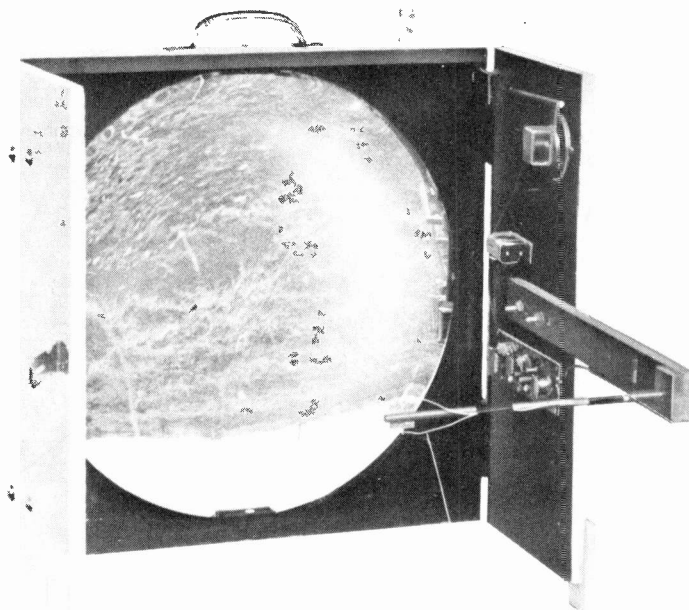

Fig. 2. This receiver can pick up good signals as far as 1/2 mile.
**Getting Greater Range.** The Photophone receiver described above will have a range of up to 550' (168 m). For really long-range communication by sunlight, you can use a large Fresnel lens or parabolic mirror to increase the optical gain of the receiver's detector. A 16" (40.2-cm) reflector—complete with detector, amplifier, battery, and loud-speaker—is shown in a plywood cabinet in Fig. 2. This receiver can pick up good-quality voice and music from as far away as a half mile. Increasing the transmitter's mirror as well, will increase the communication range even more.